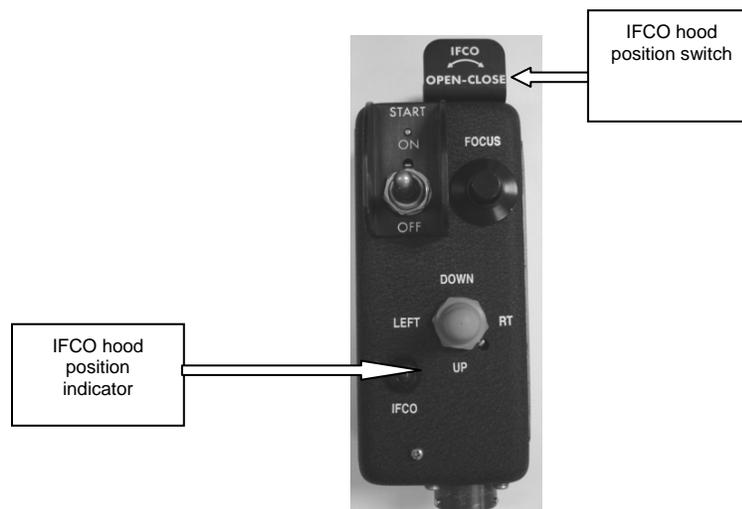

Figure 30 IFCO Control Box
The SX-16 Nightsun® is easy to operate, and it responds to directional commands from the Control Box (Figure 30). It has three controls: (1) a three-position Start/On/Off, (2) a focus button; and (3) an eight-way directional switch that controls the position of the Searchlight.